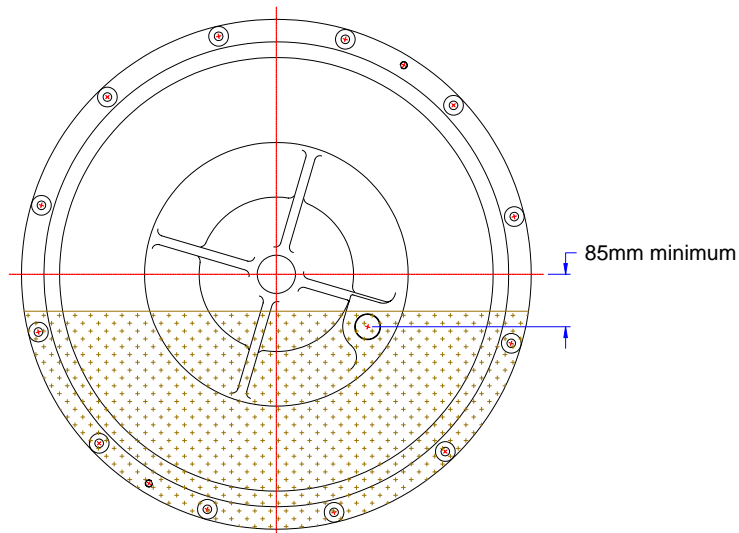

Figure 4
1. Ensure the oil sampling plug is below the final drive oil level. Refer Figure 4.